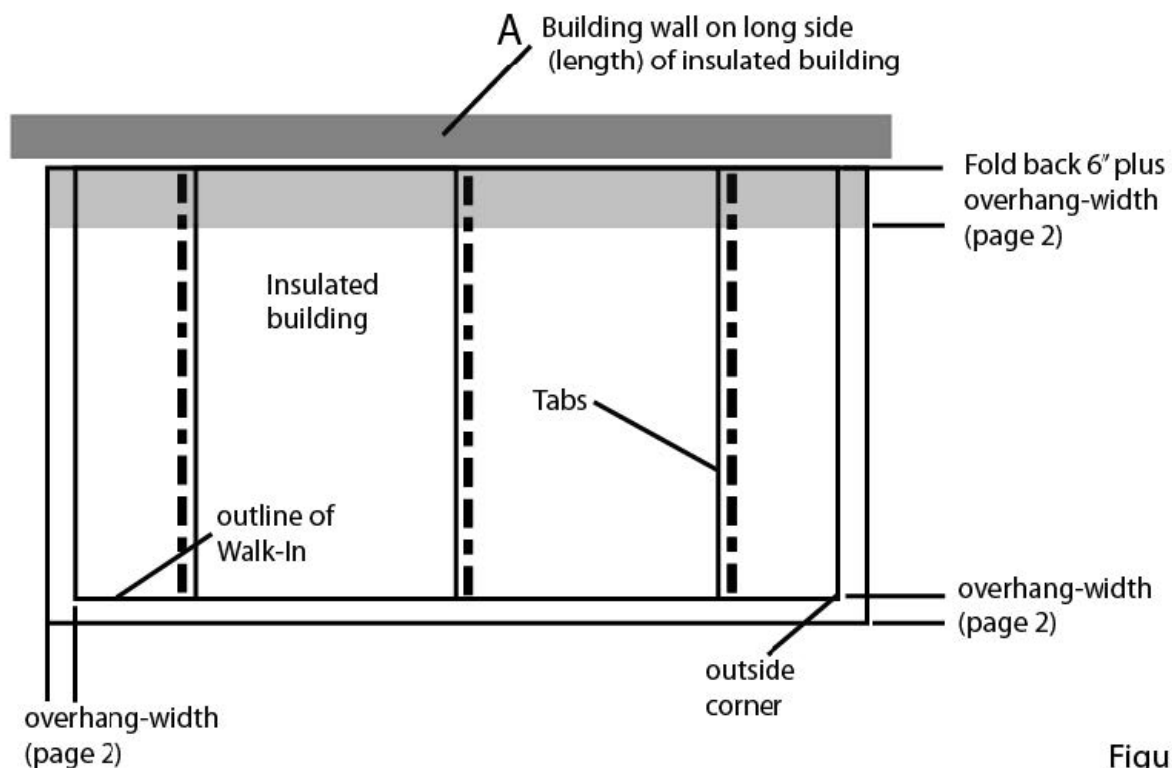
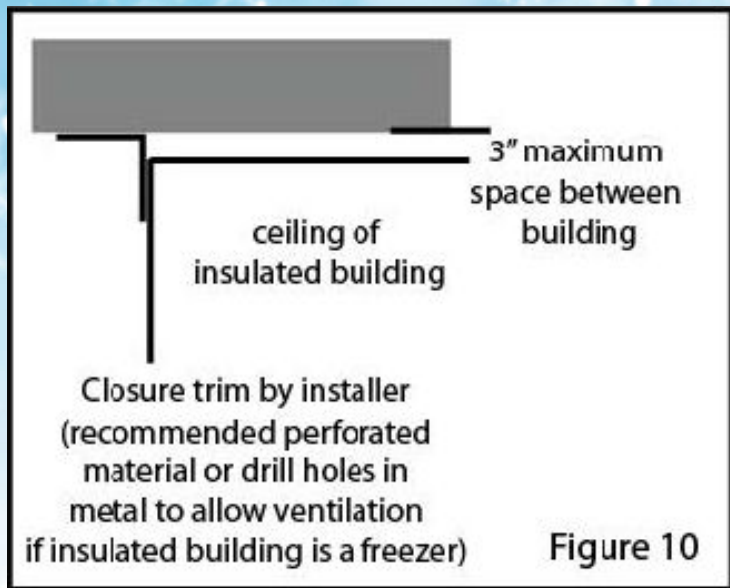
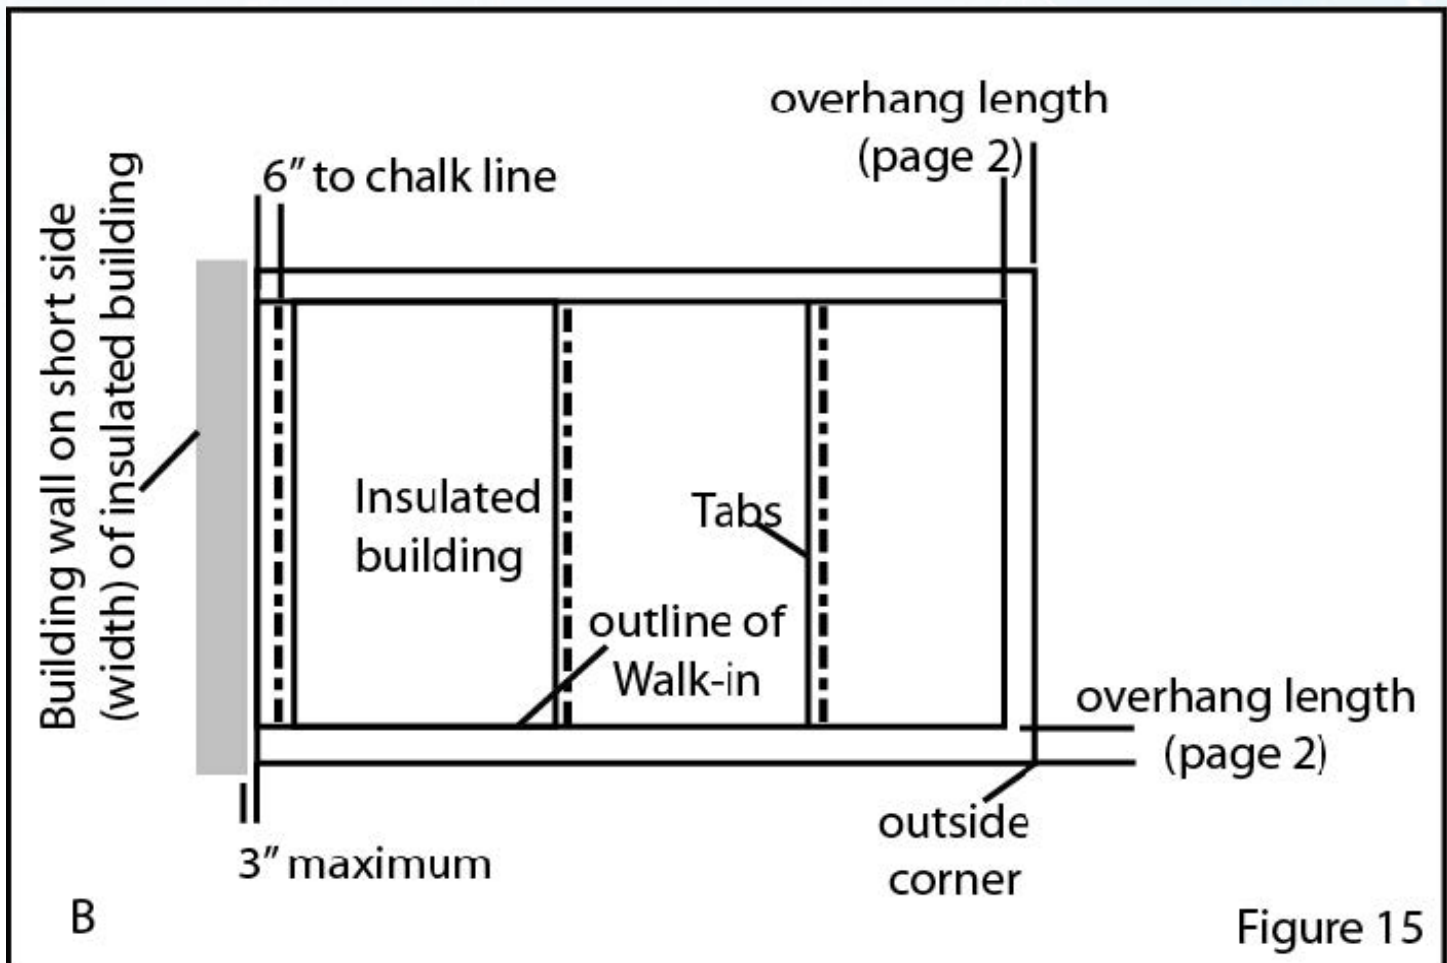

Figure 9
Figure 10
Figure 15
2. Fold the membrane material back before rolling up roof material. See Figure 9. Note: Tabs will run perpendicular to building wall. (See Figure 9) Space between insulated structure and existing building must be flashed first (vertical direction). Perforated material is recommended to allow circulation if building is a cooler or freezer. (See Figure 10).
**NOTE:** Tabs will run parallel to building wall. (See Figure 15) Space between building wall and existing building must be flashed first. Perforated material is recommended to allow circulation if building is a cooler or freezer. (See Figure 10)
**NOTE:** Tabs should run parallel to short dimension. (See Figure 16) Space between building wall and existing building must be flashed first. Perforated material is recommended to allow circulation if Bally building is a cooler or freezer. (See Figure 10)